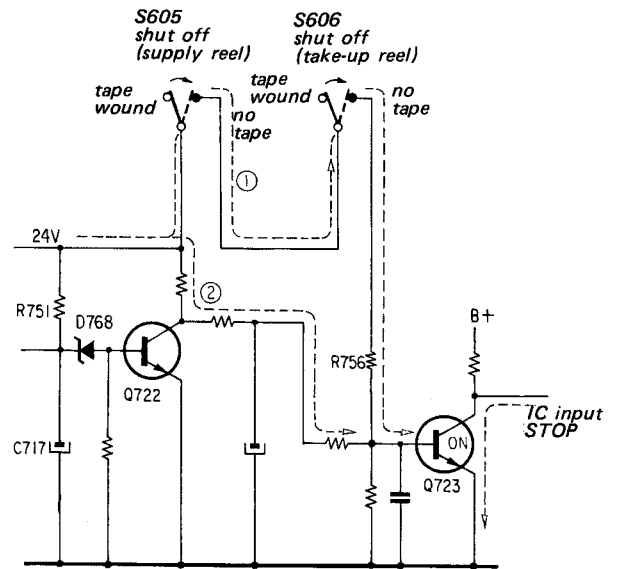

Fig. 14
**12. STOP Circuit (Refer to Fig. 14)